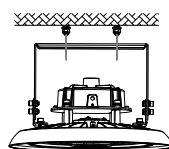
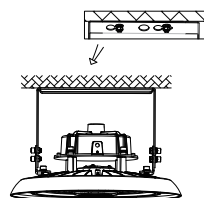

Figure 5
Figure 6
3. Align the bracket hole with screw hole (figure 5), and push the fixture to one side (figure 6) and fix it.